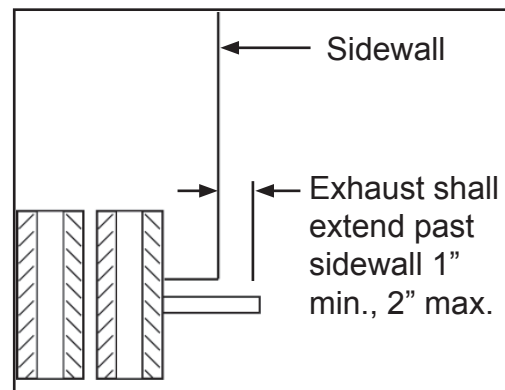

Figure 3
- a) If the generator exhaust pipe extends past the outside of the sidewall (1" minimum see example in Figure 3) continue on.